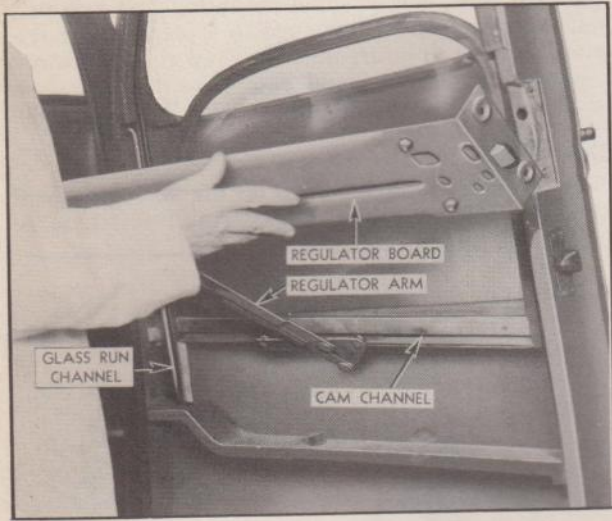

Fig. 2—Removing Window Regulator
6. Install the glass in the door opening, lubricate the cam channel with graphite grease, connect the regulator to the cam channel, as shown in Fig. 2. Reassemble the regulator board, door inner panel, and control handles.